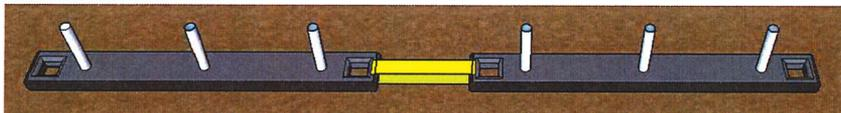

Figure 8
3. Connect the two plates with an adjustable strap (recommended) or a static strap (Figure 8).